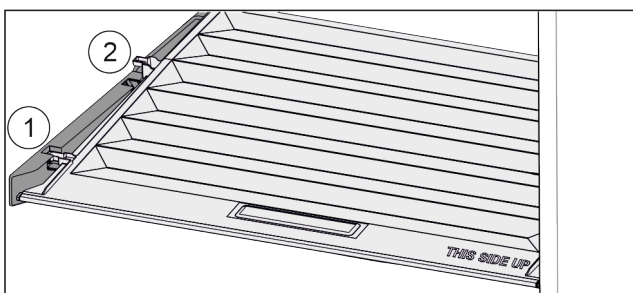

Fig. 34
- ▶ Pull the lid up at the front in the retaining parts to the opening Fig. 34 (1).
- ▶ Lift from the back and pull it up and out Fig. 34 (2).